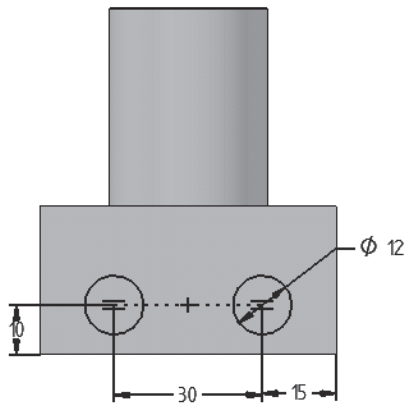

Figure 5-62 Profile for the cutout
3. Draw the profile of the cutout. The profile consists of two circles each with a diameter of 12, as shown in Figure 5-62.